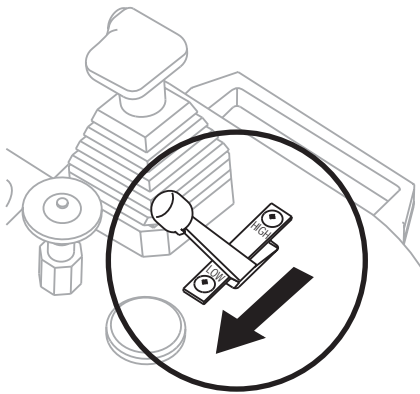

Figure 9. Engine Throttle Control Lever (Low)
- Place the **engine throttle lever** (Figure 9) in the **LOW** position.